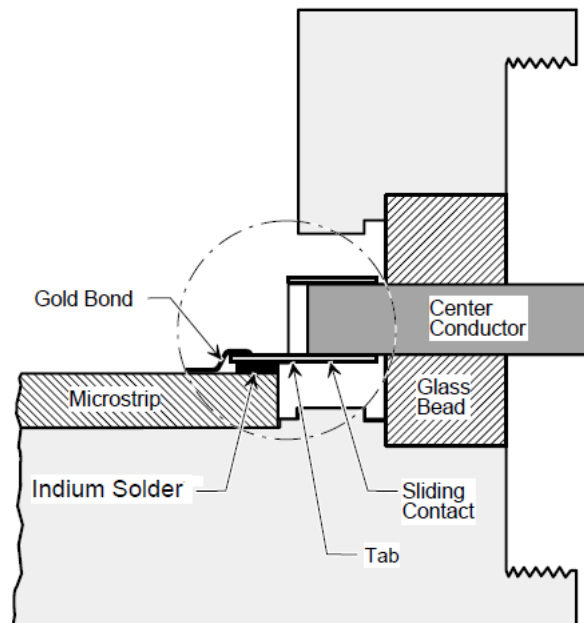

Figure 1 Sliding Contacts Installation
4. Refer to Figure 1. Use the tip of the jewelers screwdriver to gently press the S110 tab down onto the microcircuit and in toward the glass bead. If necessary re-form the S110 using the tweezers as necessary. However, ensure that it still makes firm contact with the bead pin.